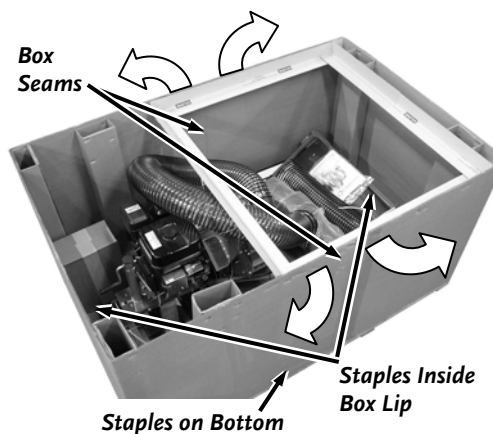

Figure 3
4. Pull open the Box Seams on both sides of the stapled carton and pull the bottom away from the Pallet as you fold the ends down (**Figure 3**). The staples are sharp so be careful.